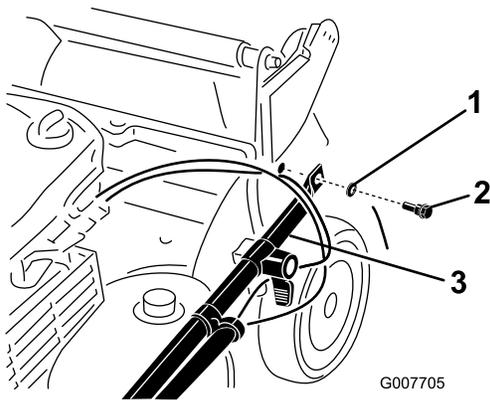

Figure 4
3. Attach the handle ends to the mower housing with 2 washers and 2 handle bolts (Figure 4), **but do not tighten the handle bolts.**